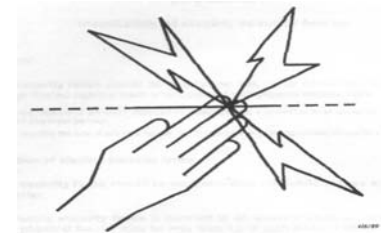

Fig. 1
- >The background colour of both sides of the warning sign is to be yellow. The inscription on the sign is to be black and shall be either the symbol shown (Fig. 1) or the words - "WARNING - ELECTRIC FENCE"